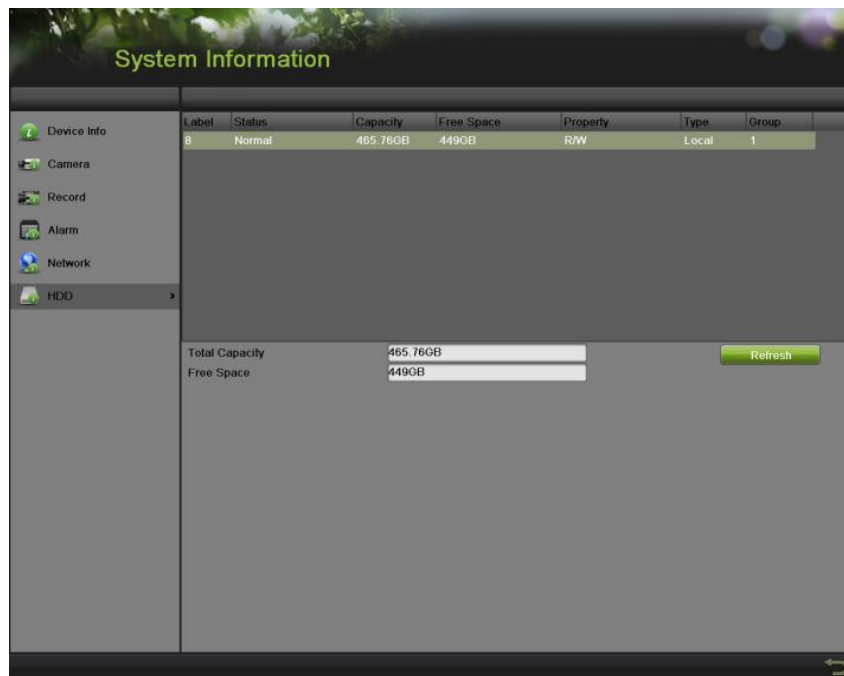

Figure 52 HDD Information Menu
6. Select the HDD tab to enter the HDD Information menu to view the HDD status, free space, capacity, etc, as shown in **Figure 52**. You can click the refresh button to renew the information displayed.